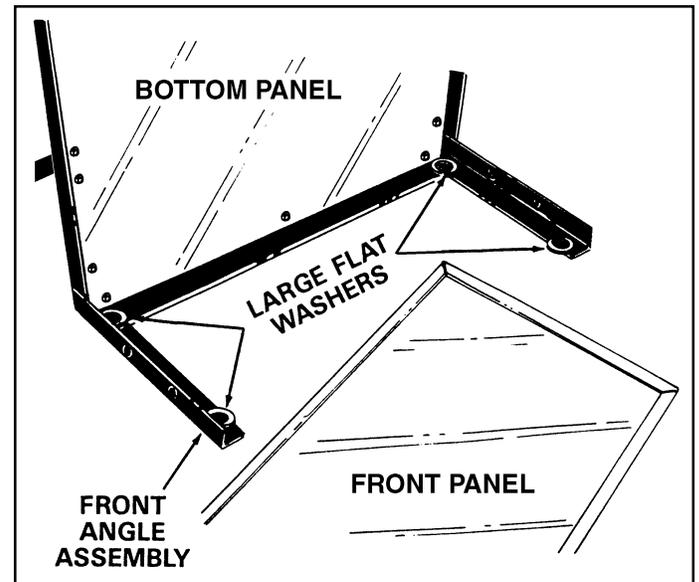

FIGURE 5
- Stand the cart on end with the front angle assembly down on the floor. Temporarily place the four large  $1-1/2"$  dia. flat washers (axle washers) on the inside of front angle assembly. See figure 5.